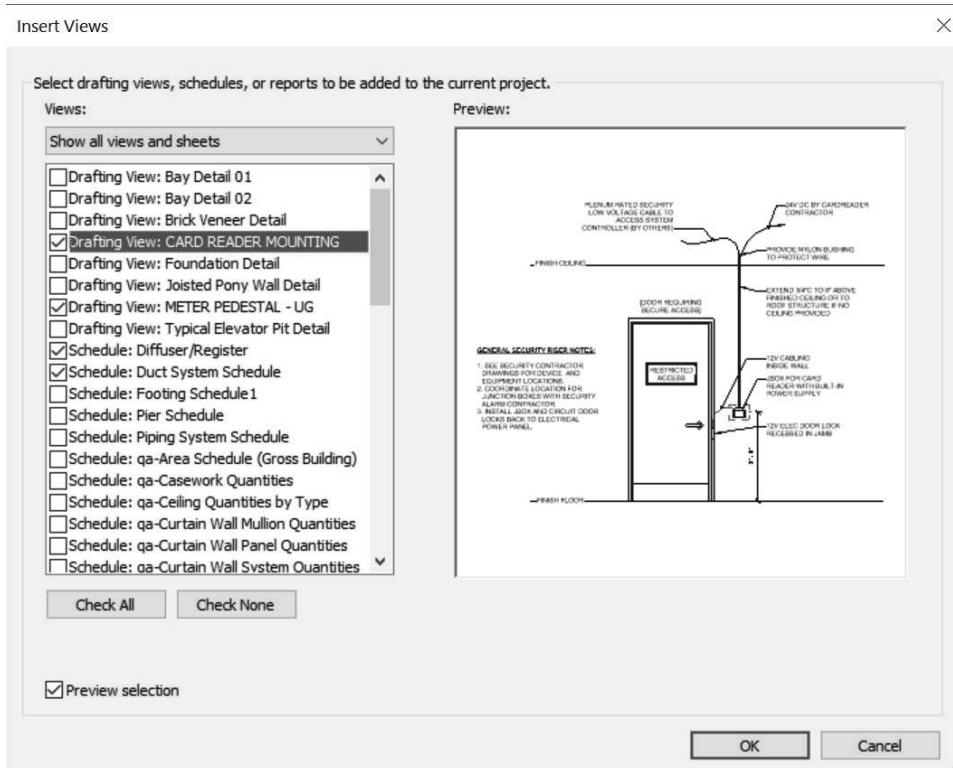

Figure 1–43
5. Select one or two drafting views and one or two schedules from the list, as shown in Figure 1–43.